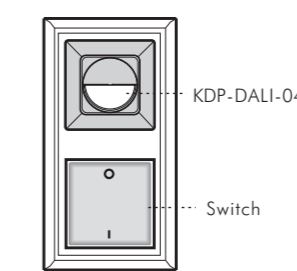

FIG.7 (2-gang switch)
- The existing switch with 2-gang or more can be replaced by KDP-DALI-04 (See FIG.7).